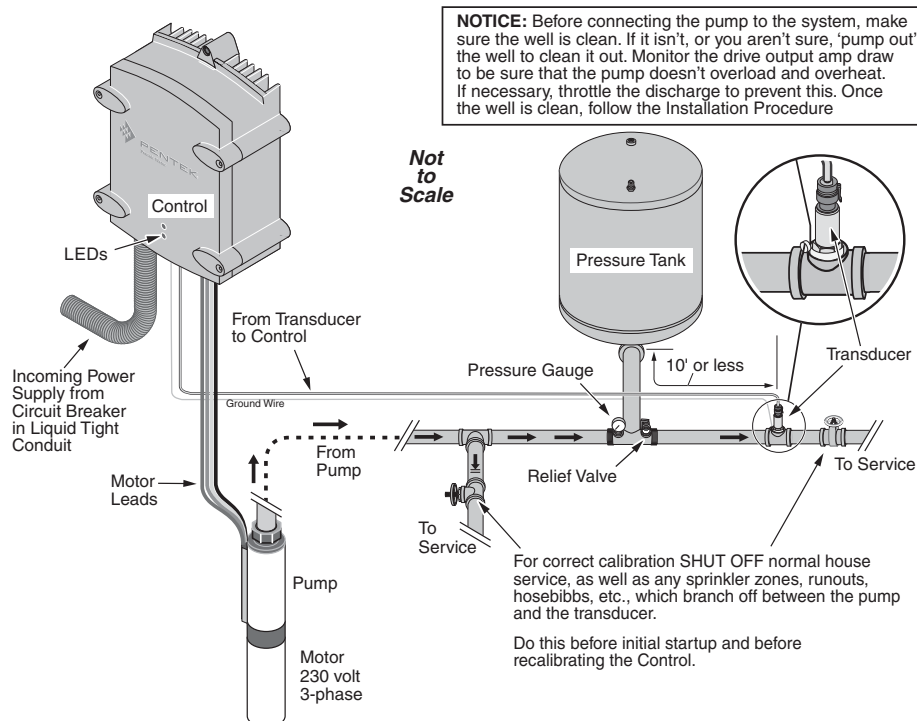

Figure 8-2: PPC20 General Layout
3. Remove the Drive cover; feed the wires through the appropriate conduit hubs and into the Drive. Connect them to the terminal blocks as shown in Figure 8-2. To maintain the NEMA 4 rating of the Drive Box, all wiring must be run to the Drive in liquid-tight conduit and fittings and must run into the Drive through liquid-tight connectors (included with the Drive).
5. Connect the other end of the pressure transducer cable to the transducer. (See Figure 8-2).